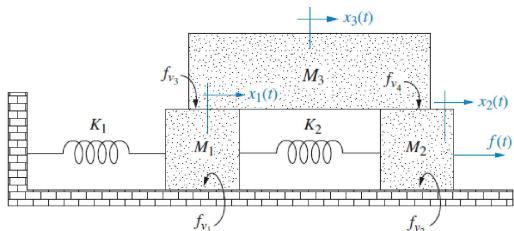

FIGURE 2.20 Three-degrees-of-freedom translational mechanical system
**PROBLEM:** Write, but do not solve, the equations of motion for the mechanical network of Figure 2.20.